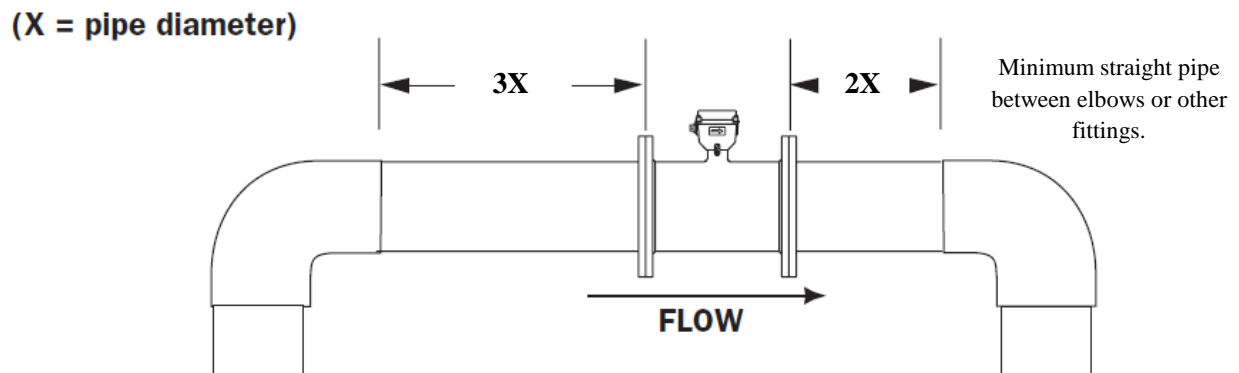

Figure 1. Example Magnetic Flow Meter Installation.
- Installed with at least 3 diameters of straight pipe upstream of meter and 2 diameters of straight pipe downstream of meter (see Figure 1). Deviation from District standard requires verification of manufacturer's specification.